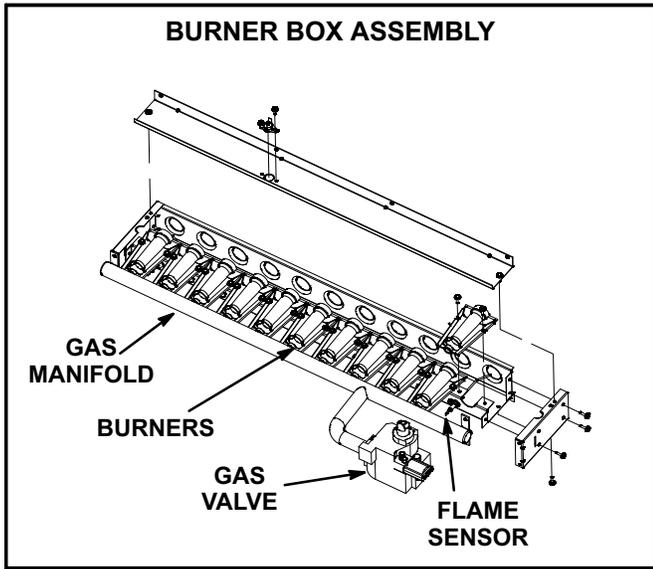

FIGURE 20
- 3- Remove two screws securing burners to burner support and lift the burners from the orifices. See figure 20. Clean as necessary.